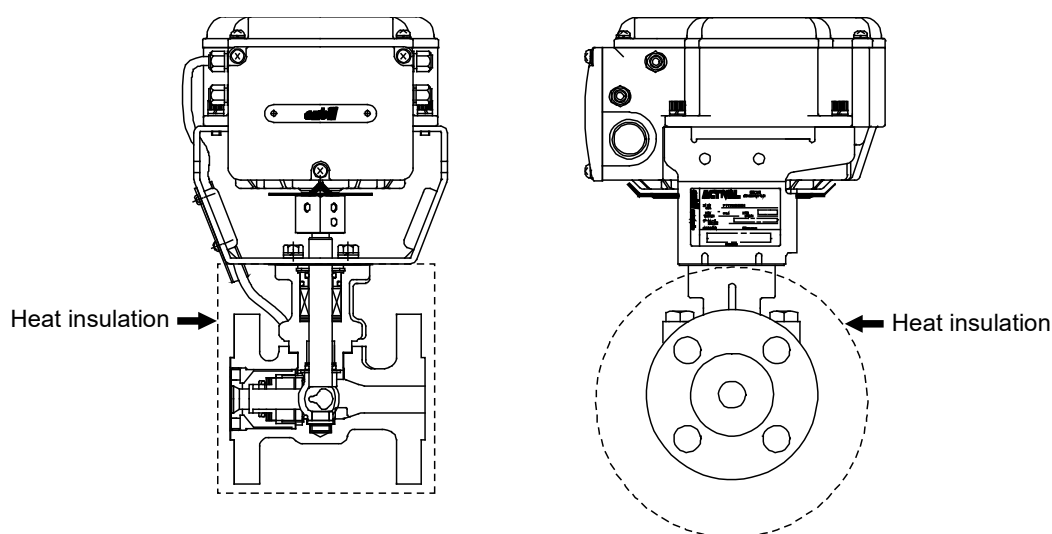

Figure 6. Heat insulating
- Apply heat insulation as illustrated by [---] in Fig. 6.